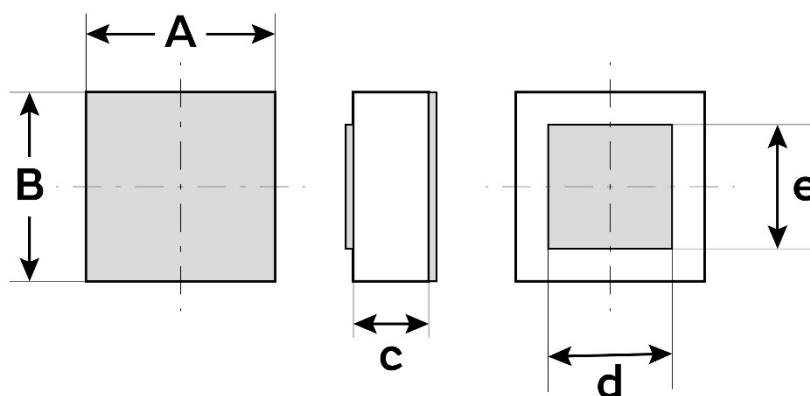

Figure 7 - Package outline drawing
- (1) Other film frame carrier are possible on request
(2) Au = TiWAu (0.3μm) / Au (3μm)
(3) Refer to Figure 7